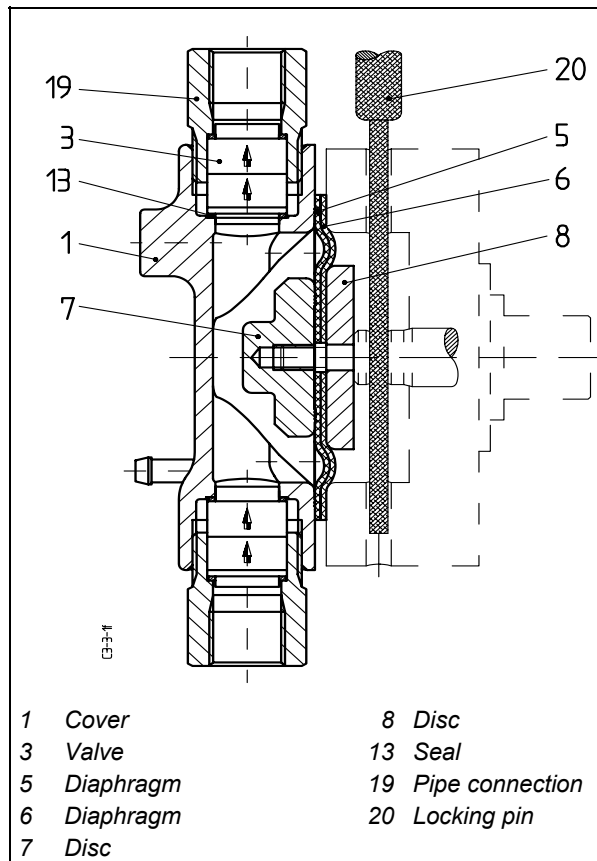
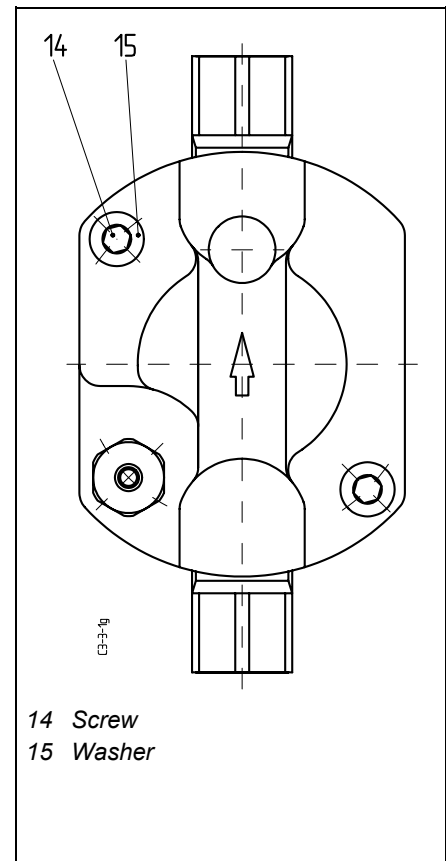

Fig. 3.6: Sectional View
Fig. 3.7: View
The replacement of the diaphragm in gear models G1 and A1 is shown in *Fig. 3.6 and Fig. 3.7*.
- Undo the screws (14) uniformly and remove the cover (1).
- To prevent movement of the push rod insert a screwdriver or a locking pin (20) through the bores in the yoke and push rod (see Fig. 3.6).
- Dismantle the double diaphragm by unscrewing the disc (7).